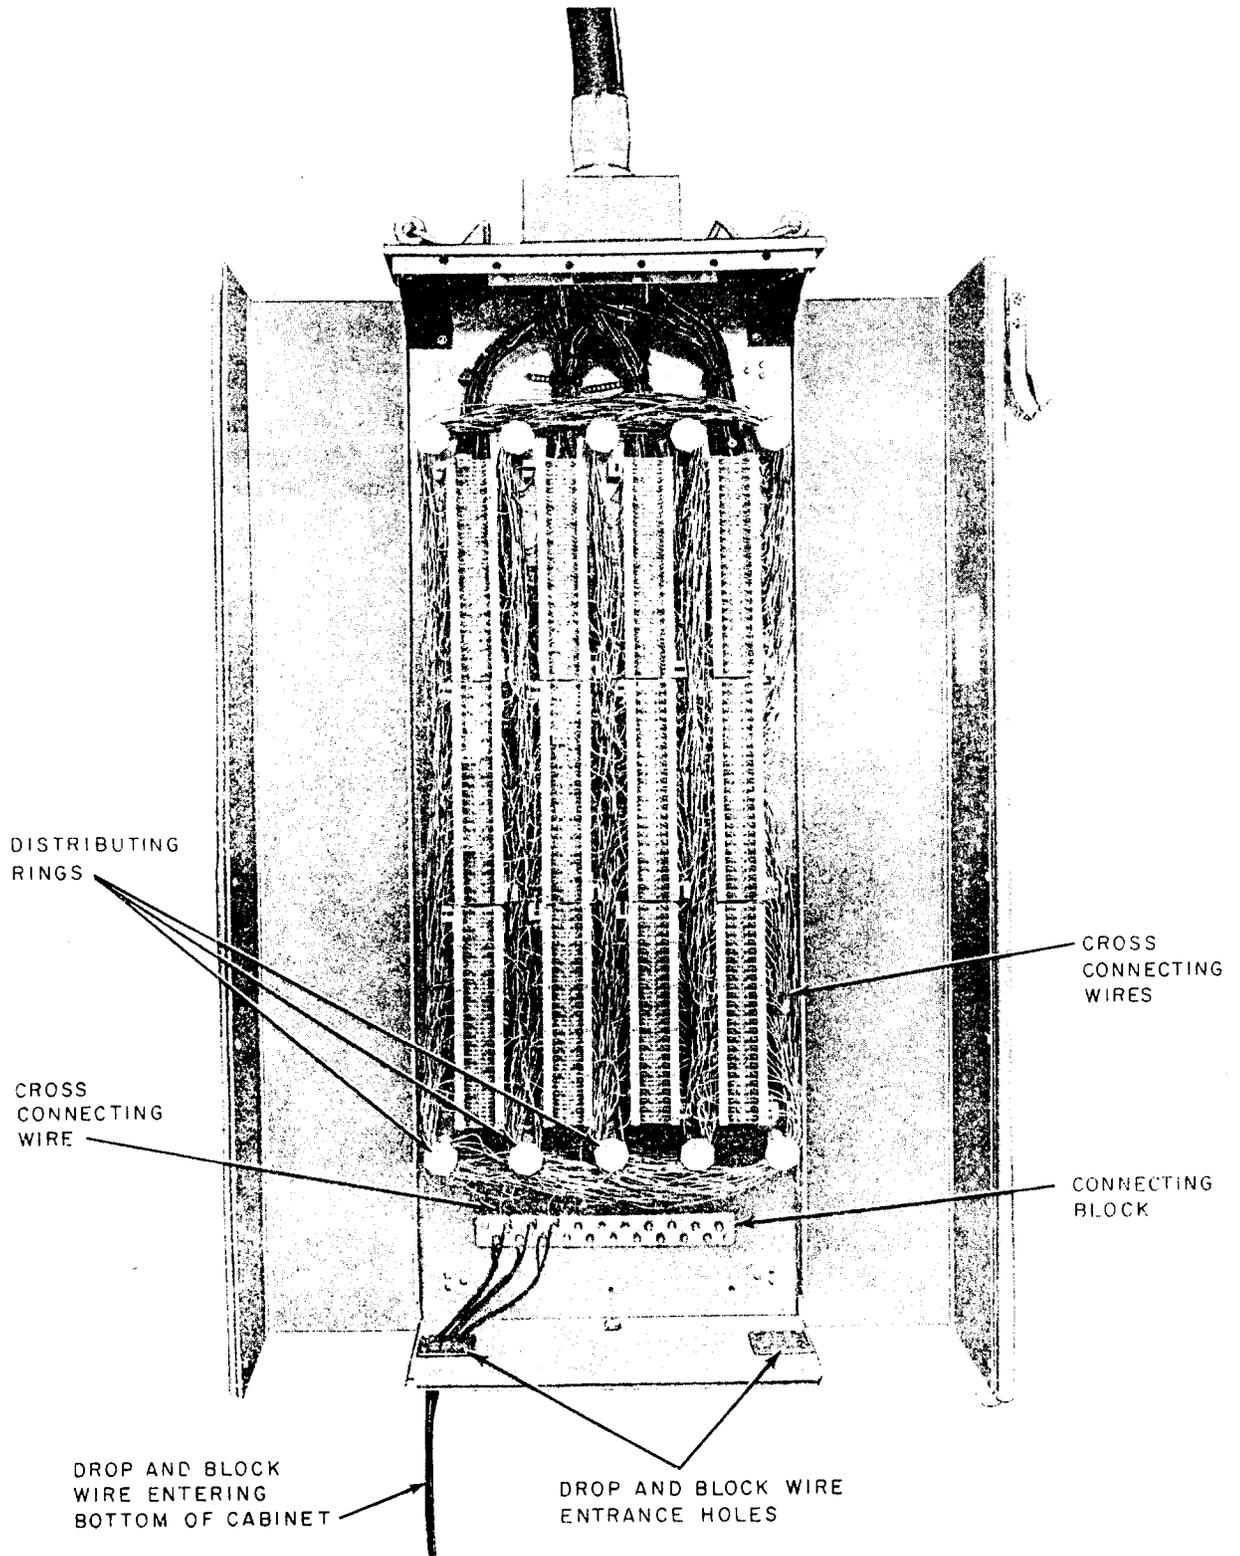

Fig. 16 - Terminating Drop Wire - 101-Type Cable Terminal
- (2) Where a drop wire is to be terminated on the right side of the terminal chamber, run the wire down the right side of the pole behind the terminal, through the two drive ties below the terminal, and into the wire entrance holes on the bottom left of the terminal box. Where the drop wire is to be terminated on the left side of the terminal chamber, run the wire down the left side of the pole behind the terminal, through the two drive ties below the terminal, and into the wire entrance holes on the bottom right of the terminal box.
- (3) Install cross-connecting wire between the feeder pair binding posts and a vacant drop wire binding post. Then terminate the drop wire as shown in Fig. 16 and 17.